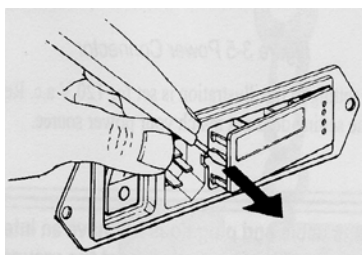

Figure 3-8 Pry out fuse holder
1. Insert a small flat-headed screwdriver or probe into the middle of the connector and pry out the fuse holder as Figure 3-8 illustrates.